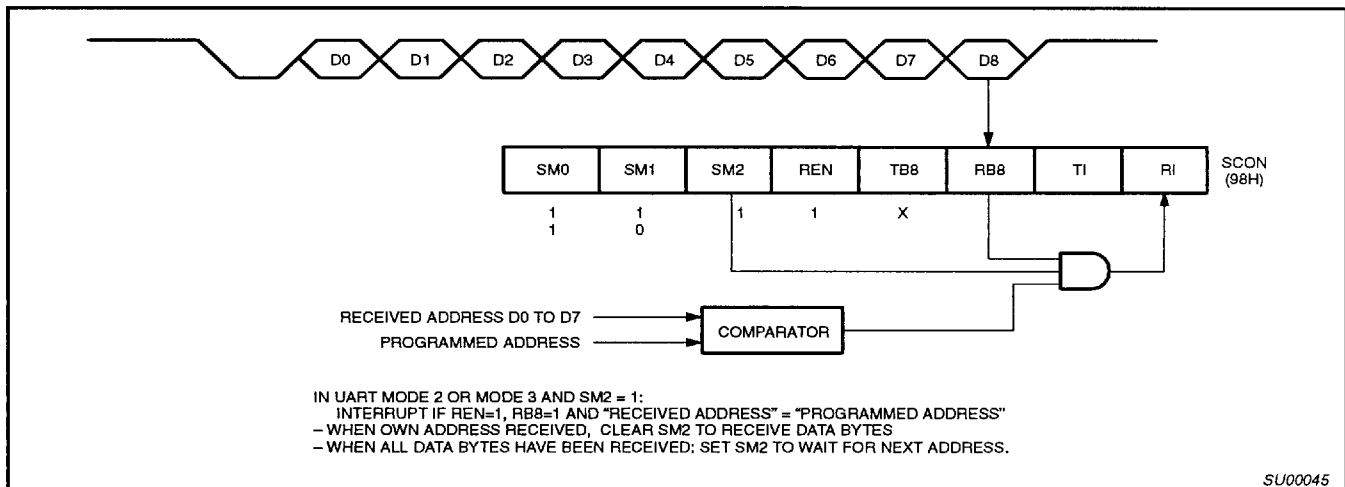

Figure 3. UART Multiprocessor Communication, Automatic Address Recognition
Automatic Address Recognition is a feature which allows the UART to recognize certain addresses in the serial bit stream by using hardware to make the comparisons. This feature saves a great deal of software overhead by eliminating the need for the software to examine every serial address which passes by the serial port. This feature is enabled by setting the SM2 bit in SCON. In the 9 bit UART modes, mode 2 and mode 3, the Receive Interrupt flag (RI) will be automatically set when the received byte contains either the "Given" address or the "Broadcast" address. The 9 bit mode requires that the 9th information bit is a 1 to indicate that the received information is an address and not data. Automatic address recognition is shown in Figure 3.